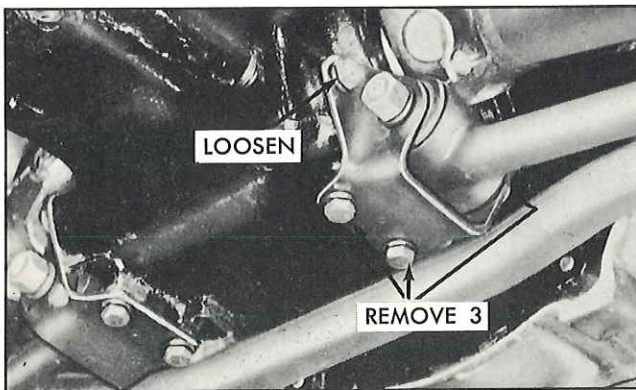
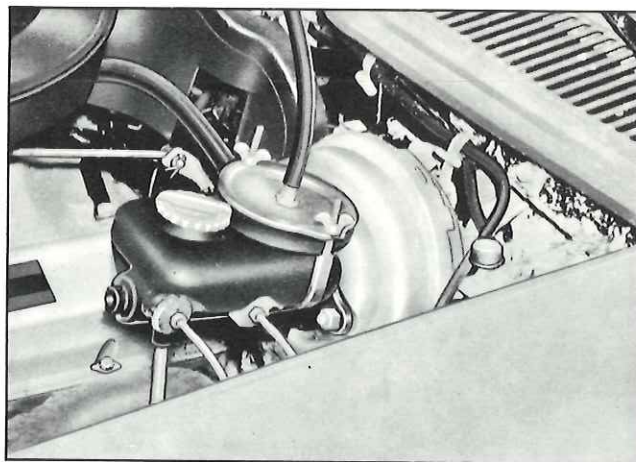

Fig. 4—Rear Strut Rod Bracket Bolts
Fig. 8—Bleeder Adapter Attachment
- Loosen the front, upper bolt from each rear strut rod bracket at the differential (a few turns to relieve tension on the lock washer). Remove the other three on each side (See fig. 4).
1. Remove master cylinder cover and install pressure bleeding adapter tool #J-21994 as shown in figure 4, Page 5-2 of the 1965 Corvette Shop Manual and connect an air pressure bleeder tank to it. For power brakes, which incorporate a split main cylinder, install this adapter over the rear opening for bleeding the rear brakes (fig. 8) and over the front opening for bleeding the front brakes.